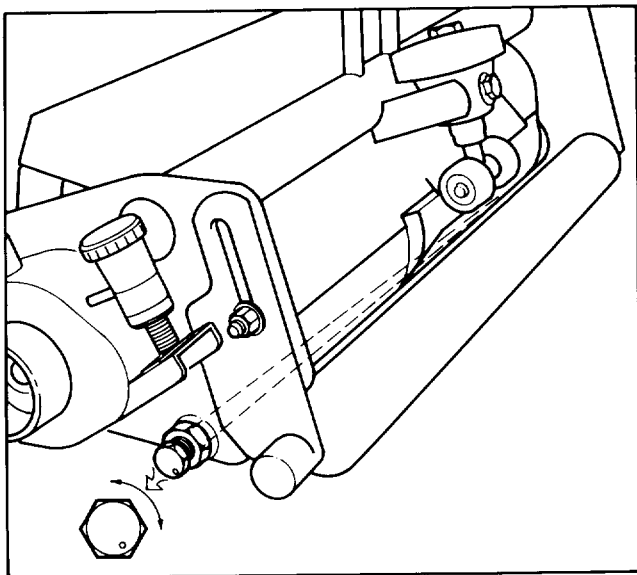

Figure 22
4. Loosen jam nut on left hand bedbar pivot bolt enough to ease in turning bolt. The left hand pivot bolt has an offset thread which, when rotated, acts as a cam to raise or lower the bedbar. On the bolt head there is an identification dot which denotes the offset of the bolt. When the dot is in the up position (Fig. 22) the left end of the bedbar is raised. As the bolt is turned clockwise and dot is lowered, so is the left end of the bedbar. **Identification dot is to be positioned within the rear (180°) position when adjusting.**